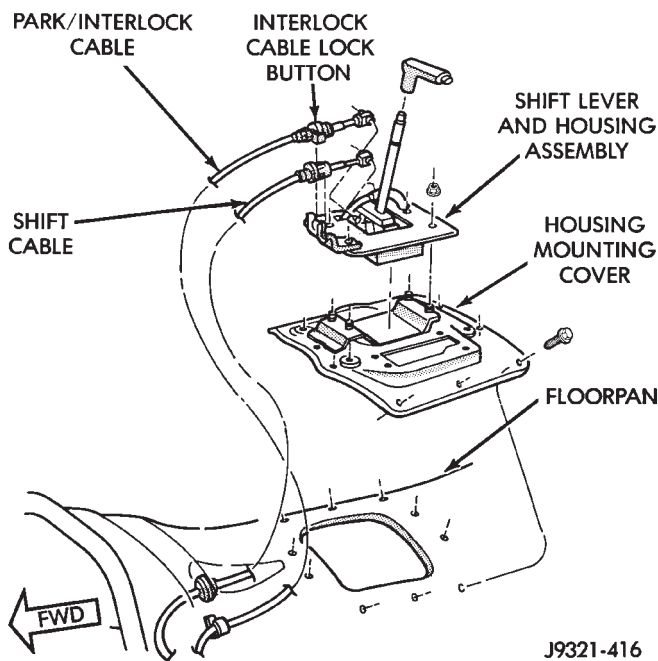

Fig. 3 Shift Cable (XJ)
(1) Shift transmission into Park.
(2) Raise vehicle.
(3) Release cable adjuster clamp to unlock cable (Figs. 3 and 4). Clamp is at transmission end of cable.
(4) Unsnap cable from transmission cable bracket.
(5) Move transmission shift lever fully rearward to Park detent. Lever is on manual valve shaft at driver side of case.
(6) Verify positive engagement of park lock by attempting to rotate propeller shaft. Shaft will not rotate when park lock is engaged.
(7) Snap cable into cable bracket.
(8) Lock shift cable by pressing cable adjuster clamp down until it snaps into place.
(9) Check engine starting. Engine should start only in Park and Neutral.
(10) Lower vehicle.